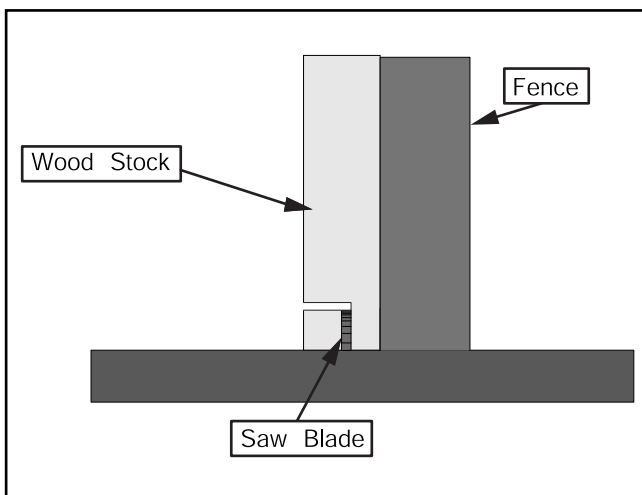

Figure 38. Rabbit cutting.
7. Rotate the workpiece as shown in **Figure 38**.